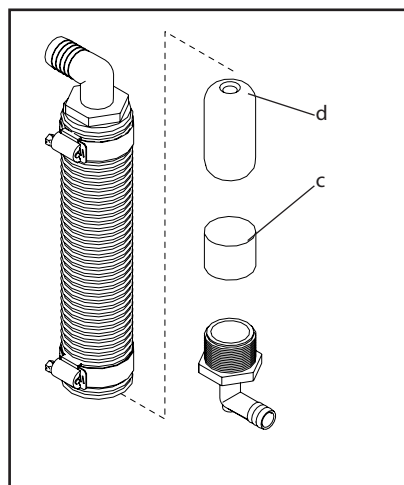

Figure 7: Mixing Chamber Pads
5. Mixing Chamber Pads & Sponge (c and d) (Figure 7): Disassemble the mixing chambers and rinse out foam pads every season.